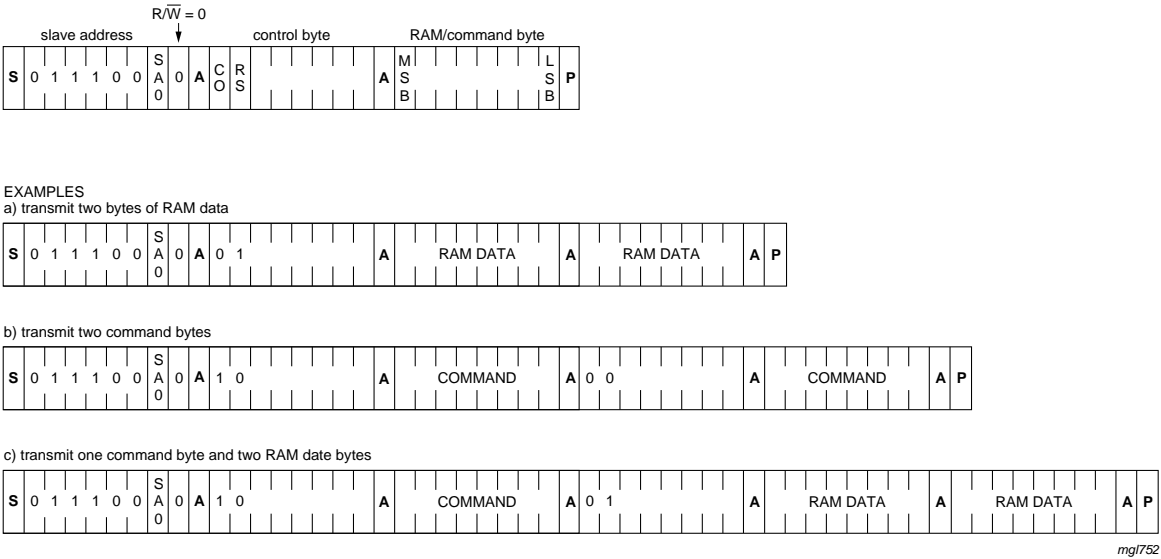

Fig 18. I2C-bus protocol
The I2C-bus protocol is shown in Figure 18. The sequence is initiated with a START condition (S) from the I2C-bus master which is followed by one of the available PCF8534A slave addresses. All PCF8534A with the same SA0 level acknowledge in parallel to the slave address. All PCF8534A with the alternative SA0 level ignore the whole I2C-bus transfer.